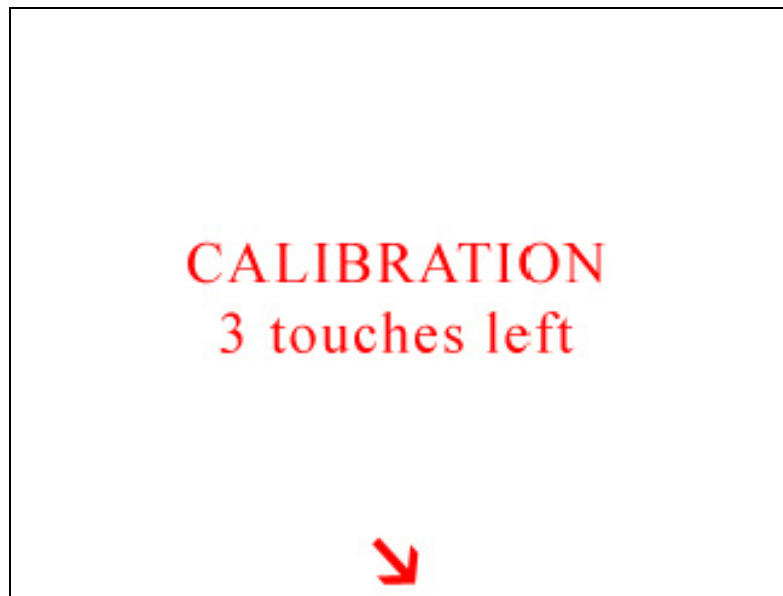

Figure 4-41 Final Alignment Screen
- The fourth alignment screen shown in Figure 4-41, displays the arrow in the at the bottom center of the screen. Touch the arrow three times to finish the alignment process.